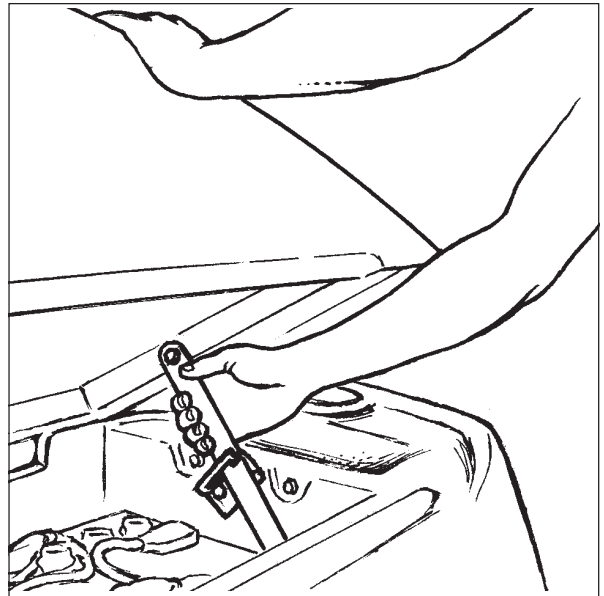

Figure 31
**NOTE:** There is an intermediate position available for holding the recovery tank open for charging batteries. See figure 31.